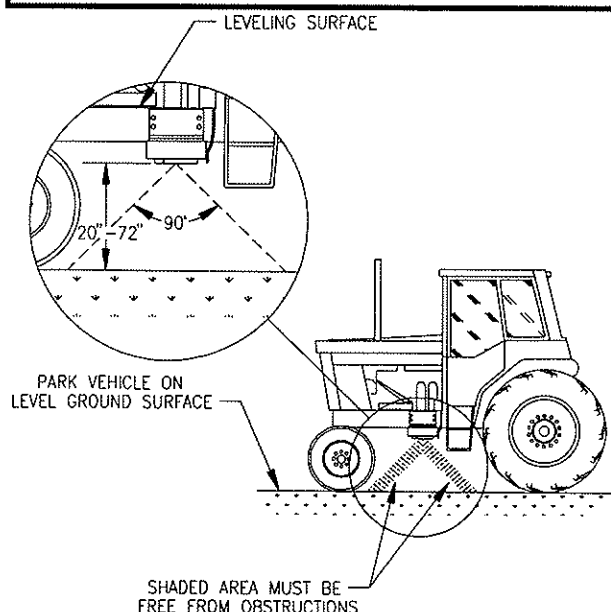

FIGURE 1
- a) The line of sight from the lens to the ground must not be obstructed by structures or tires. Obstructions must not come closer than 20 inches to the bottom of the radar. See Figures 1 and 2.